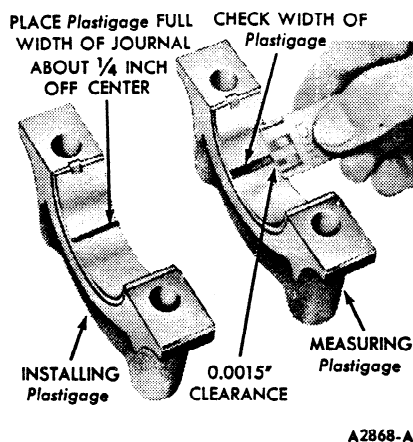

FIG. 25 Installing and Measuring Plastigage
3. Place a piece of Plastigage on bearing surface across full width of bearing cap and about 1/4 inch off center (Figure 25).